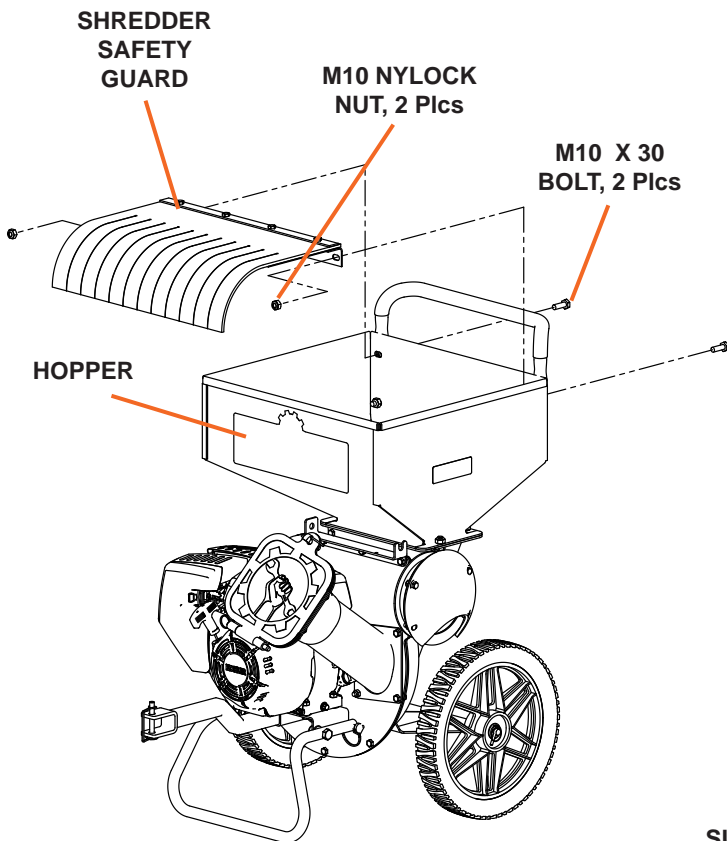

Figure 5
1. Position the shredder guard inside the hopper (see Figure 5).